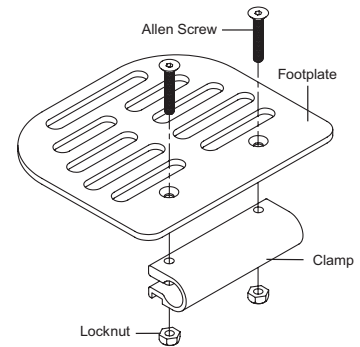

Figure 7
1. Loosen, but do not remove, the two Allen Screws that secure the footplate to the clamp. See Figure 7.
2. *This Step 2 applies to the Evo and the TR with "C" package only. For all other chairs, skip to Step 3 below.* If you need to raise or lower the position of the binder clamp on the frame in order to achieve the necessary range of adjustability, you will need to increase or lessen the width of the tube onto which the footrest is clamped. To do this, loosen the Allen Screws that secure the footplate to the footplate clamp as though you were going to adjust the angle of the footrest. See also Figure 7. When this clamp is loosened, you can adjust the width of the horizontal tubes inside the footplate clamp.